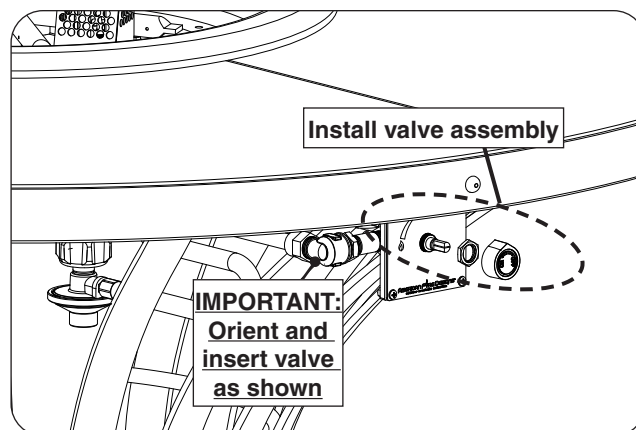

Fig. 30-4 Install valve assembly
7. Insert the valve assembly through the plate (in the base). Replace the nut onto the valve stem, and tighten. Reinstall the control knob. See Fig. 30-4.
Important: Handle with care to prevent damage to the thermocouple and gas connections. Ensure the valve is oriented and inserted in the manner shown. See Fig. 30-4.